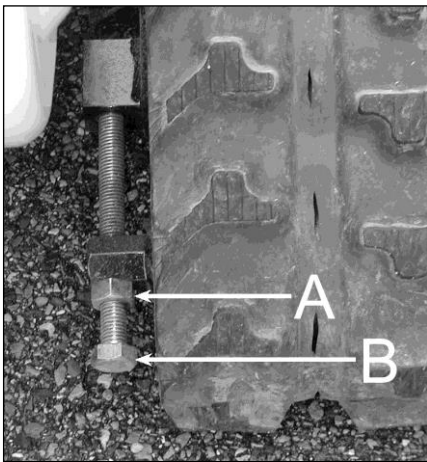

Figure 26
2. Unscrew the nut (A, Figure 26).
4. Screw the nut (A, Figure 26).